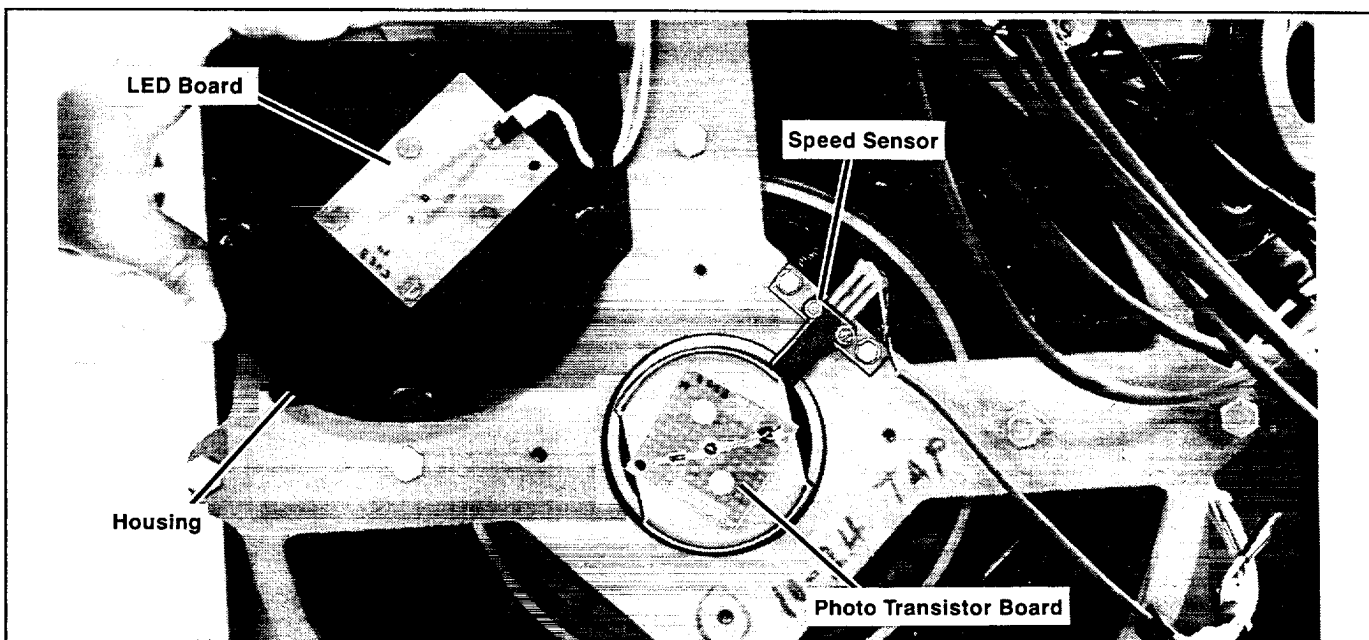

Figure 2. LED Board and Housing
3. Remove LED board and housing and disconnect speed sensor leads. See Figure 2.